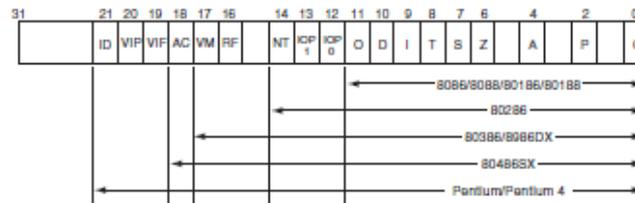

Figure 2-2: The EFLAG register of microprocessor family
- This register indicates the condition of the microprocessor and controls its operation (Figure 2-2).